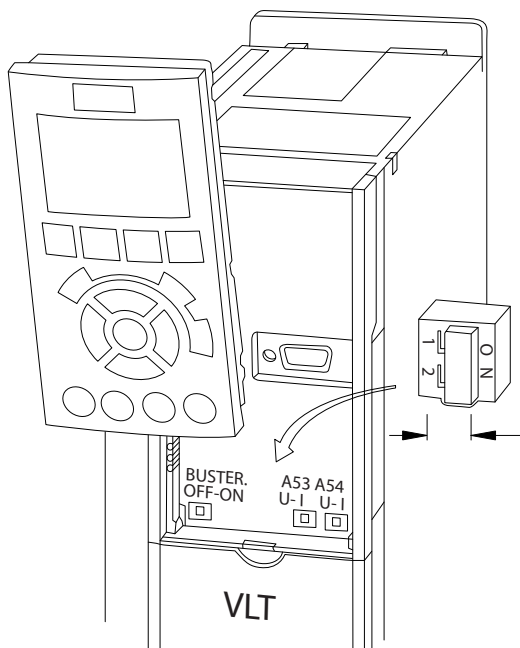

Figure 4.10 Location of Terminal 53 and 54 Switches
1. Remove the LCP (local control panel) (see *Figure 4.10*).